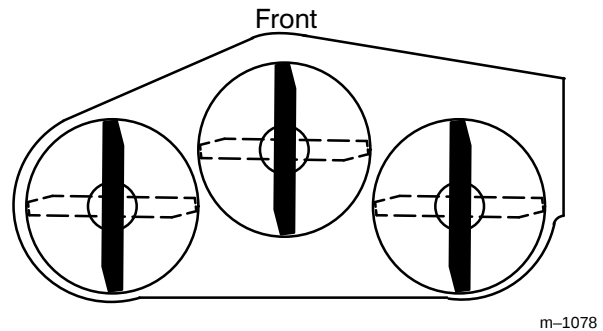
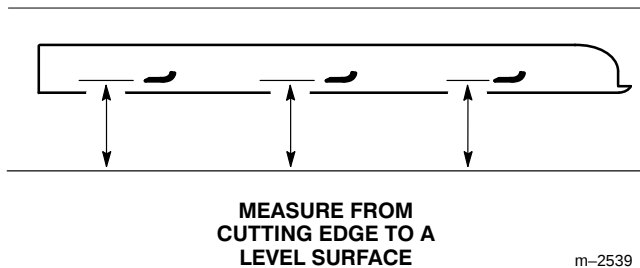

Figure 17
Figure 18
1. Rotate the blades until the ends face forward and backward (Fig. 17). Measure from a level surface to the cutting edge of the blades (Fig. 18). Note this dimension.